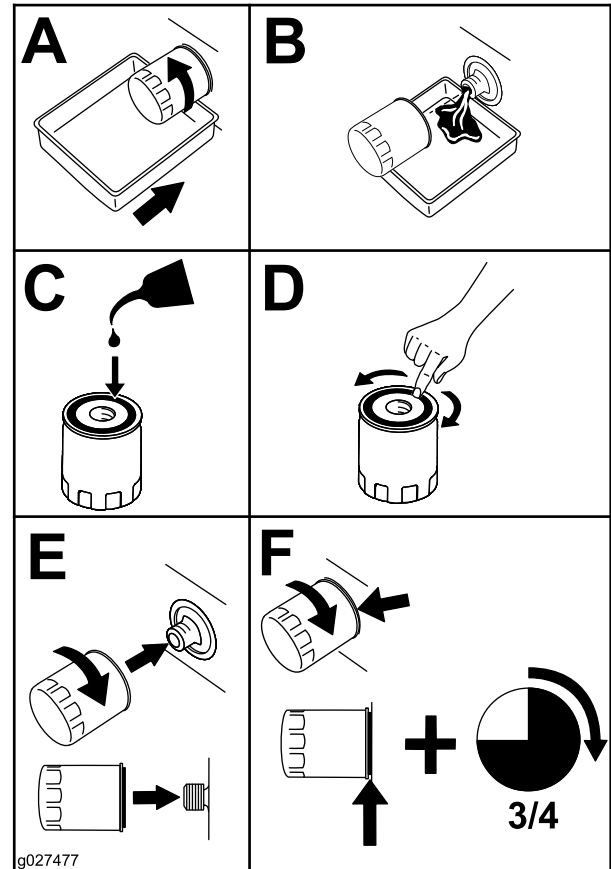

Figure 65
- Change the engine-oil filter (Figure 65).